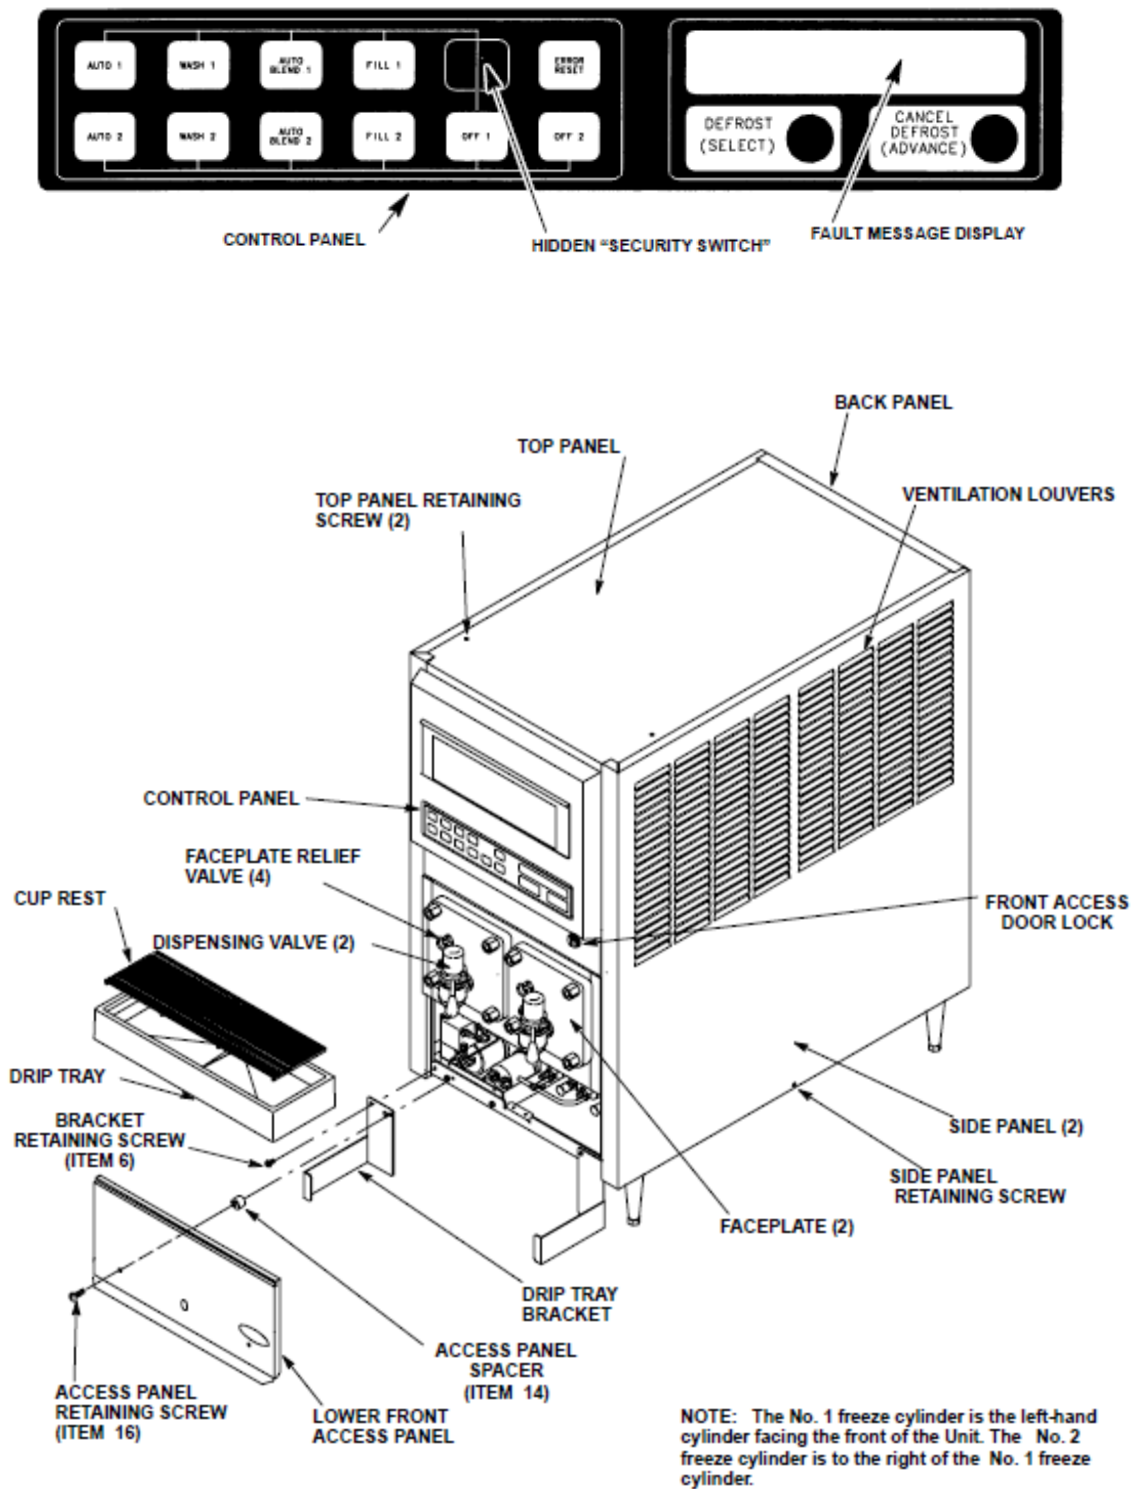

FIGURE 5. OPERATING CONTROLS
(see Figure 5)
Using a flat blade screwdriver, turn lock counterclockwise to unlock the front access door (see Figure 5), then open the door.
3. Using a flat blade screwdriver, turn lock counterclockwise to unlock the front access door (see Figure 5), then open the door.